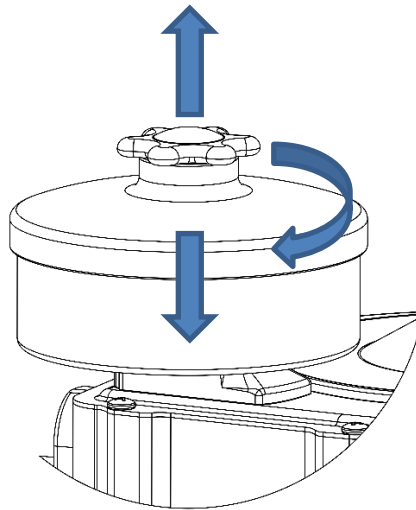

Figure 2
1. Lift and rotate activation knob 90 degrees until arrow points from "SRL" to "DESCENDER" mode, the knob will drop into place. *See figure 2.*